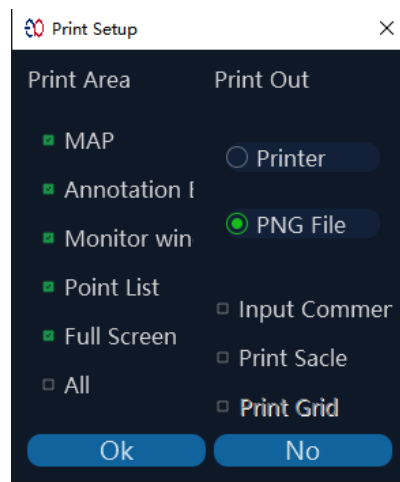

Figure 10-10 Print Setup Dialog Box
- 3) Select the item to print in the Print Setup dialog box (Figure 10-10):